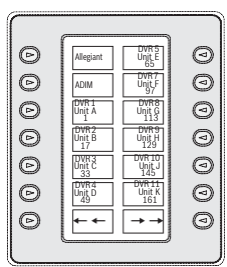

Figure 1.3 Main Product Selection Menu
1. Press the PROD button to put the keyboard in the Product Selection Mode. The softkey display shows the Product Selection menu (refer to *Figure 1.3*).